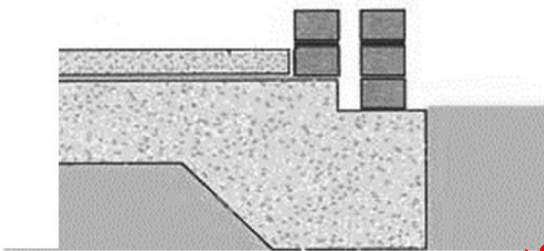

Figure 1
- 4 What type of foundation is shown in Figure 1?